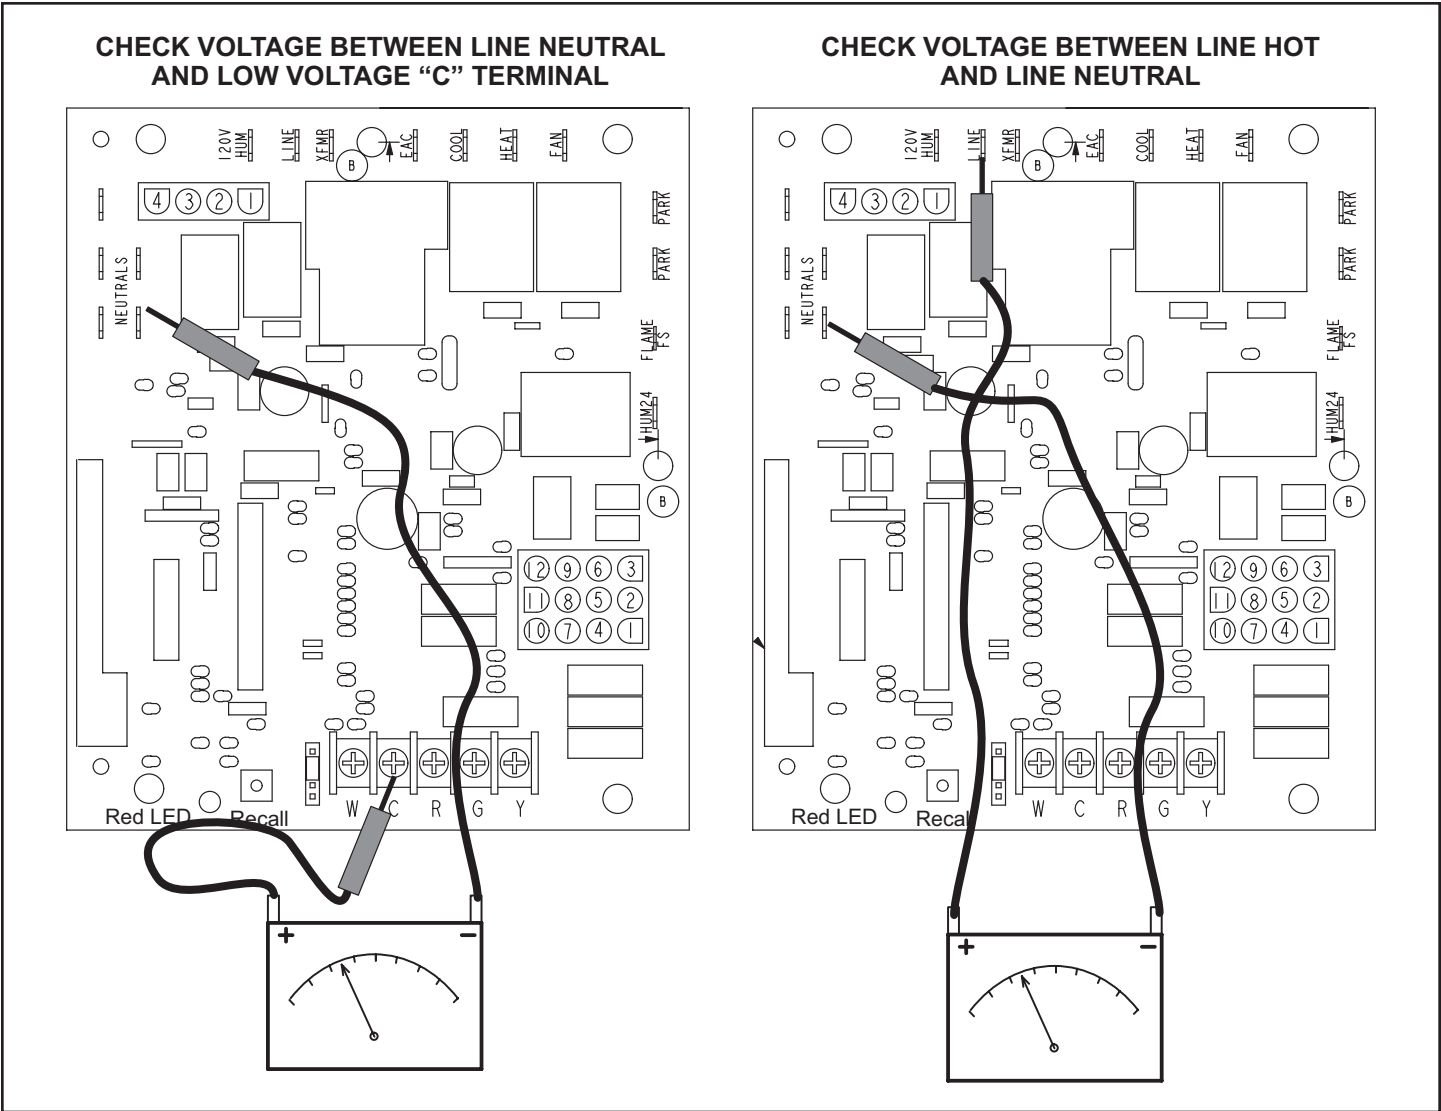

Figure 17.
- 1. Measure the AC voltage between Line Neutral (spade terminals) and “C” terminal (low voltage terminal block) on the integrated control. See Figure 17. A wide variation in the voltage between Line Neutral and “C” as a function of load indicates a poor or partial ground. Compare the readings to Table 11. If the readings exceed the maximum shown in Table 11, make repairs before operating the furnace.
- 2. In addition, measure the AC voltage from Line Hot to Line Neutral (spade terminals) on the integrated control. See Figure 17. This voltage should be in the range of 97 to 132 VAC